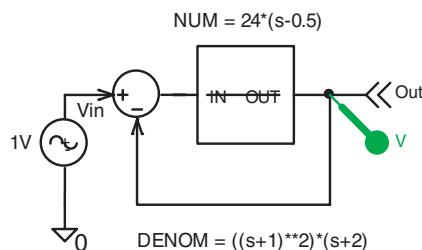

FIGURE 7.44: A closed-loop control system
- (8) Investigate root locus plotting using **DIFF** and **Laplace** parts in Fig. 7.44. Analysis tab to **Analysis type: AC Sweep/Noise, AC Sweep Type to Logarithmic, Start Frequency = 0.001, End Frequency = 10, Points/Decade = 10,001**.